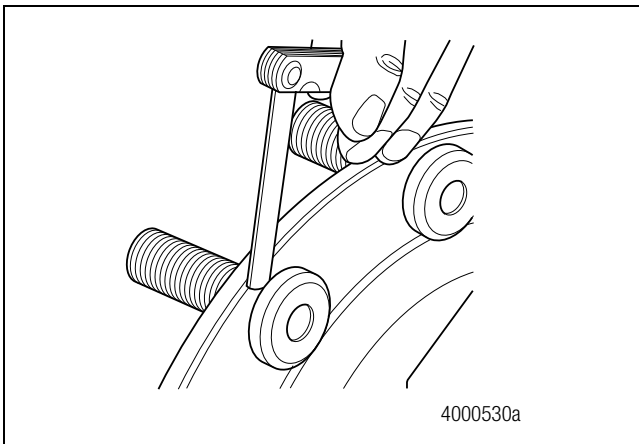

Figure 6.46
11. Use a 0.0015-inch (0.0381 mm) feeler gauge to check that the stud is correctly seated. Figure 6.46.